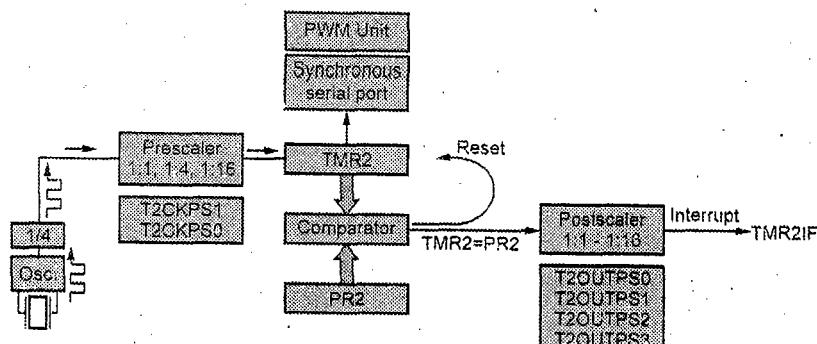

Fig. Q.4.1 : Timer 2 block diagram
- A simplified block diagram of timer 2 is shown in Fig. Q.4.1.